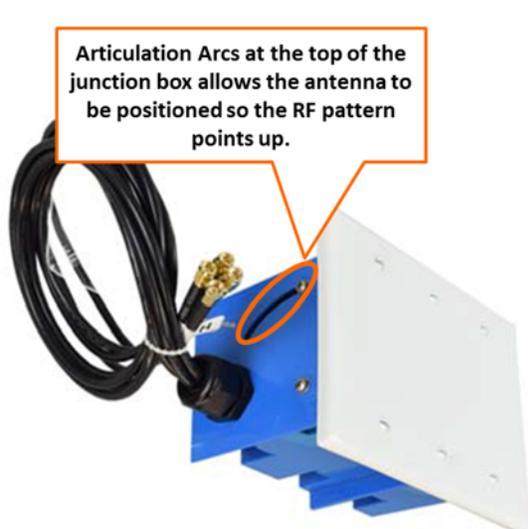

Figure 2
- a. Ensure the Articulation Arcs are at the top of the junction box for an RF beam that points up. Refer to Figure 2.